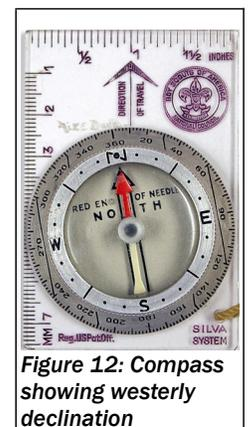

Figure 12: Compass showing westerly declination
Figure 12 shows a compass set for 10° westerly declination. The dial is rotated so its 10° mark aligns with the direction of travel. If the declination were easterly, the dial would be rotated so the 350° mark aligns with the direction of travel.
- 5) Finally, transfer the north-south baseline bearing to your compass. Stand to the south of the first (southern) stake and sight across the compass base to the northern stake. If you used steel stakes (e.g., rebar), stand well back from them so the metal doesn't affect the compass needle. Rotate the compass dial until the arrow is aligned directly under the compass needle, as shown in **Figure 12**. Repeat this procedure until you are positive that the compass needle is correctly aligned with its arrow while the compass base accurately lines up with both stakes. *Leave the compass set this way until the solar project is finished!* If necessary, tape the dial in place. (If you've sighted accurately, the compass dial will be set to the value of your **magnetic declination**.) In the future, you can go to any location, drive a stake, rotate the entire compass to center the arrow under the needle, sight across the compass base, and have a co-worker drive a second stake to establish a north-south baseline at that location.